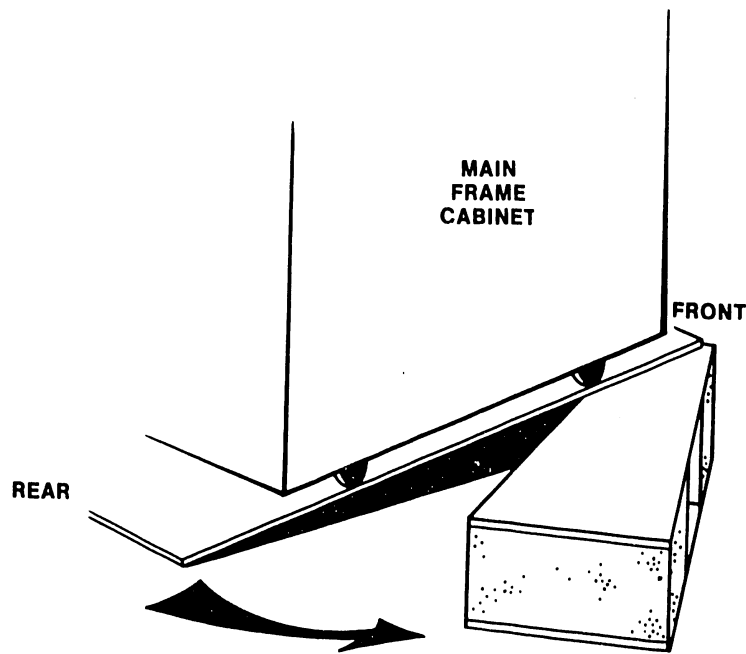

Figure 4-3. Rolling Cabinet Off Cushion Pallet
11. Carefully roll the VS-25/45 main frame cabinet off the rear of cushion pallet. (See figure 4-3.)